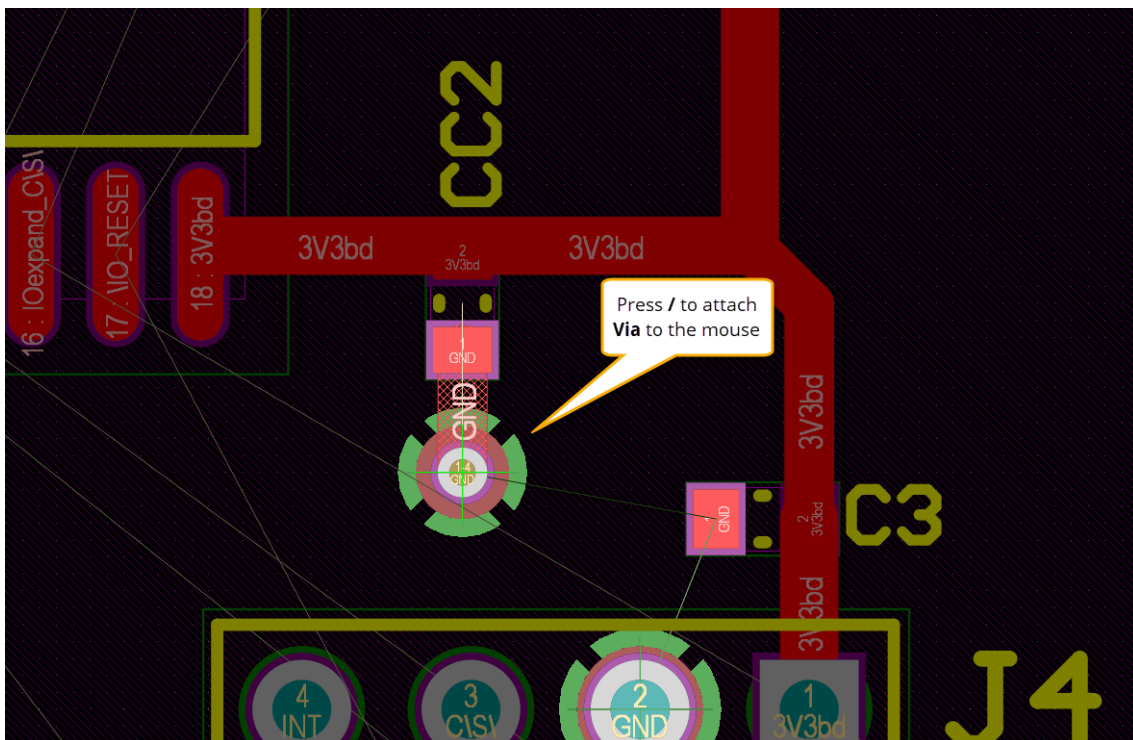

Figure 4. Via attached to the mouse
- b) Press **/** (Numeric Keypad- Add fanout Via and Suspend), a via is attached to your mouse, as seen in Figure 4.